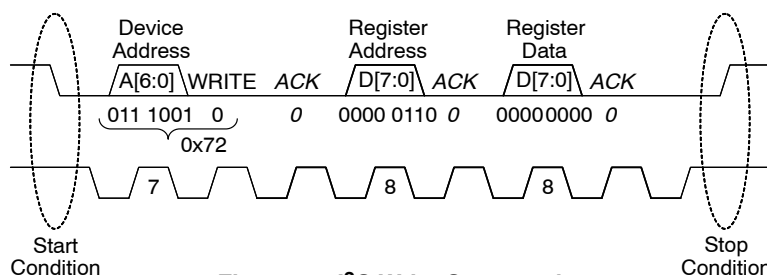

Figure 16. I²C Write Command
Figure 16 shows an I²C write operation. Write transactions begin with the master sending an I²C start sequence followed by the seven bit slave address (NOA1305 = 0x39) and the write(0) command bit. The NOA1305 will acknowledge this byte transfer with an appropriate ACK. Next the master will send the 8 bit register address to be written to. Again the NOA1305 will acknowledge reception with an ACK. Finally, the master will begin sending 8 bit data segment(s) to be written to the NOA1305 register bank. The NOA1305 will send an ACK after each byte and increment the address pointer by one in preparation for the next transfer. Write transactions are terminated with either an I²C STOP or with another I²C START (repeated START).